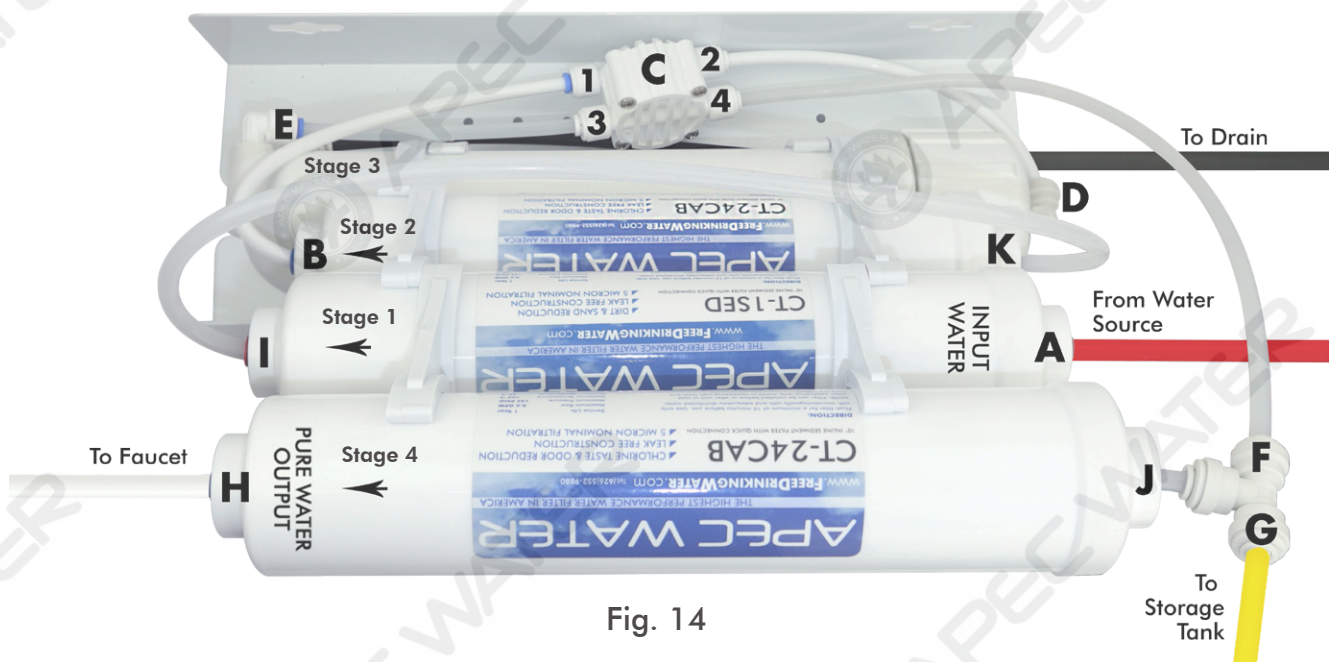

Fig. 14
The **Stage-1** Sediment filter is tucked between stage 2 & 4 CT-24CAB filters (see **Fig. 14**). For ease of access, please tilt the filters to a convenient position then do the following:
The **Stage-2** Pre-Carbon filter is located above the 3rd stage membrane filter (See **Fig. 14**). For ease of access, please tilt the filters to a convenient position then do the following:
- 2) See **Fig. 14 Page 20**. Locate the Membrane housing on the system (labeled "Membrane"). Remove the WHITE tubing from the housing's cap at **point D**. To remove tubing, Push In and Hold Down on the collet ring square against the fitting. With the collet held in this position the tube can be removed. Open up the cap (turn counter-clockwise) See **Fig. 14A**. Using a plier, remove the used membrane for disposal.
The **Stage-4** Pre-Carbon filter is located above the 1st stage sediment filter (See **Fig. 14 Page 20**). For ease of access, please tilt the filters to a convenient position then do the following: